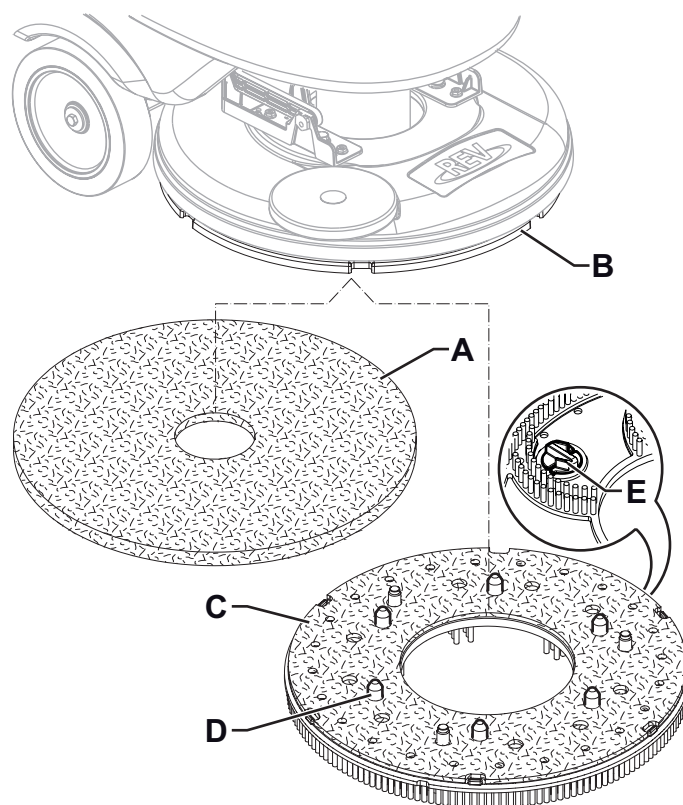

Figure 3
1. Make sure that the REV deck (37) is lifted.
2. Turn off the machine and remove the user key (52).
3. According to the kind of cleaning to be performed, install the pad (A, Fig. 3) or the brush (C, optional) and note the following:
- Place the pad (A) under the deck and press it until it is fastened with the Velcro of the drive disc (B).
- Place the brush (C, optional) under the deck, and then match the centering pins (D) to the respective holes of the drive disc (B), and then engage the brush with the three mounting screws (E).